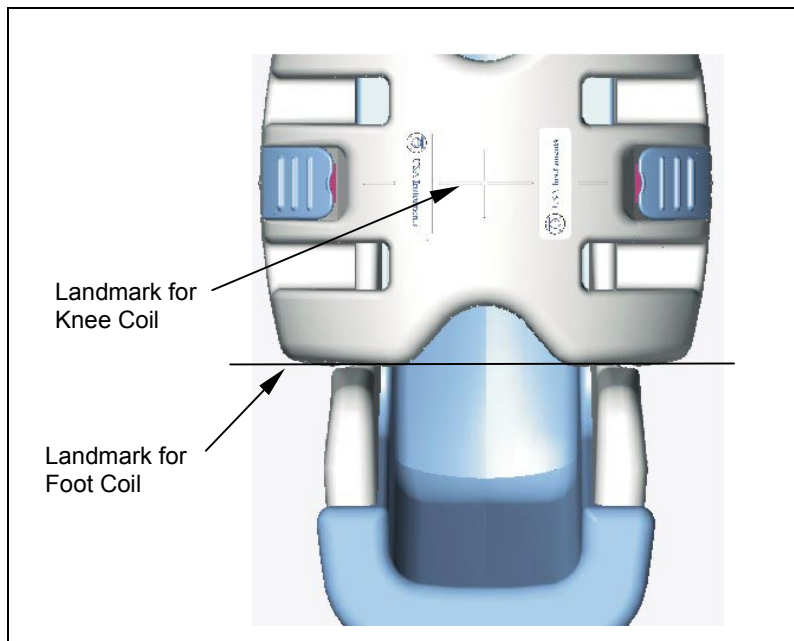

Figure 8: Coil landmarks.
3. At the magnet, press the “**Alignment Light**” button to turn on the light. Move the cradle to align the coil to the alignment lights as shown in *Figure 8*. Press the “**Landmark**” button to landmark the alignment.